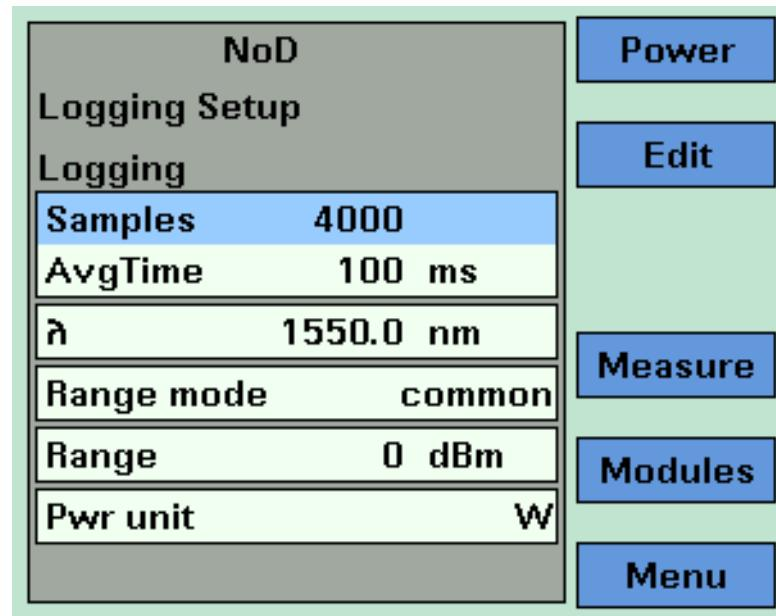
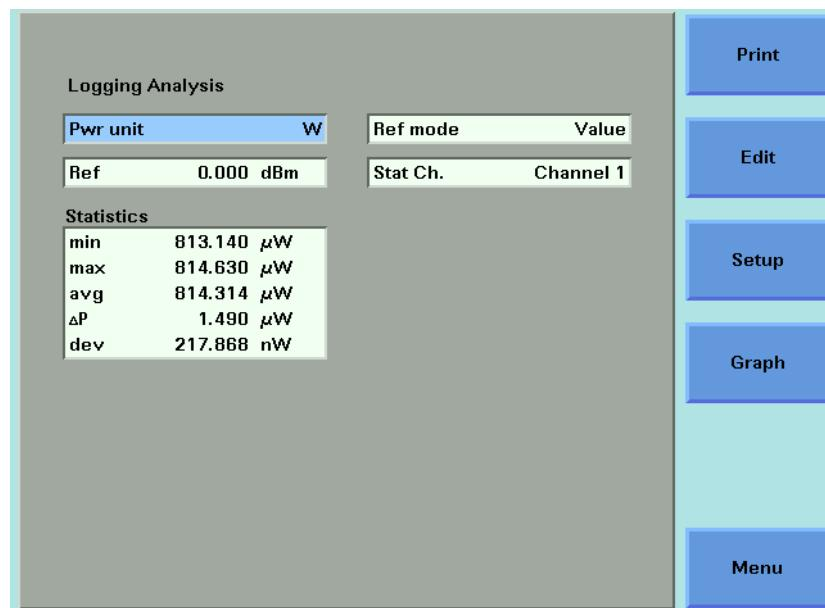

Figure 149 The Agilent 8163B Logging Parameter Setup Screen
Figure 152 The Agilent 8164A/B Logging Analysis Screen
If you are using the Agilent 8163A/B Lightwave Multimeter, press [Parameter] to access the Logging Parameter Setup Screen, as shown in Figure 149 . To return to the Logging Modules Setup Screen, press [Modules].
- 2 Press [Analysis]. The Logging Analysis screen appears as shown in Figure 152 for the Agilent 8164A/B and Figure 149 for the Agilent 8163B.